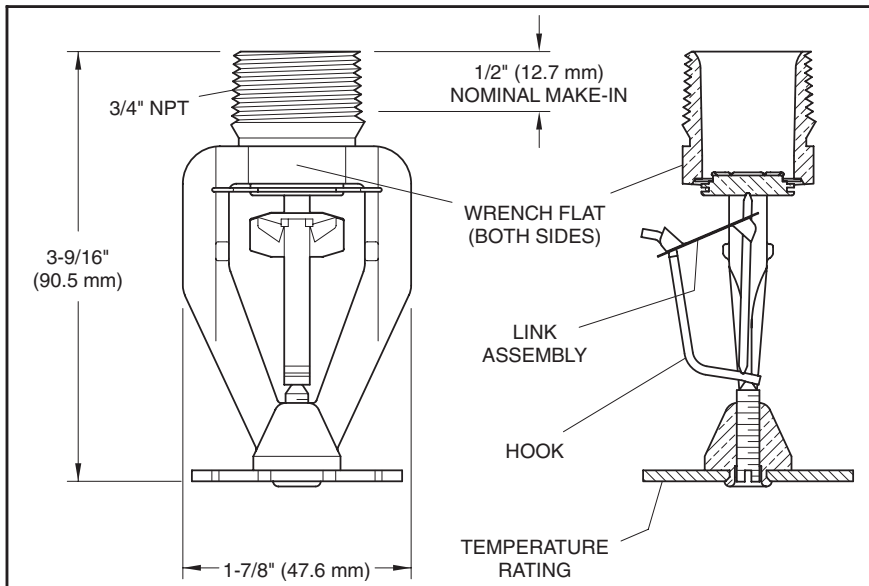

Figure 1
The Model ESFR-17 Sprinklers (Ref. Figure 1) are “Early Suppression Fast Response Sprinklers” having a nominal K-factor of 16.8. They are suppression mode sprinklers, and their use is especially advantageous as a means of eliminating the use of in-rack sprinklers, when protecting high-piled storage.
Step 4. After installation, inspect the Link Assembly of each ESFR-17 Sprinkler for damage. In particular, verify that the Link Assembly and Hook are positioned as illustrated in Figure 1, and that the Link Assembly has not been bent, creased, or forced out of its normal position in any way.